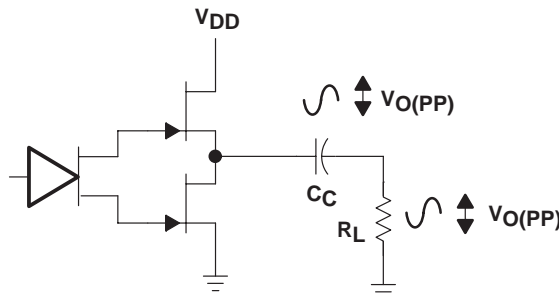

Figure 35. Single-Ended Configuration
In a typical computer sound channel operating at 5 V, bridging raises the power into a 8-Ω speaker from a singled-ended (SE) limit of 250 mW to 1 W. In sound power, that is a 6-dB improvement which is loudness that can be heard. In addition to increased power there are frequency response concerns, consider the single-supply SE configuration shown in Figure 35. A coupling capacitor is required to block the dc offset voltage from reaching the load. These capacitors can be quite large (approximately 40 μF to 1000 μF) so they tend to be expensive, occupy valuable PCB area, and have the additional drawback of limiting low-frequency performance of the system. This frequency limiting effect is due to the high pass filter network created with the speaker impedance and the coupling capacitance and is calculated with equation 2.